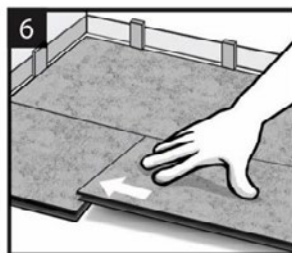

Figure 6
6. Attach the first plank of Row 2 by connecting the long side to the first row. Maintain your 6mm expansion gap. Then, attach the second plank by connecting the long side to the first row and sliding it up to the short end of the first plank. After that drop and lock. See Figure 6.